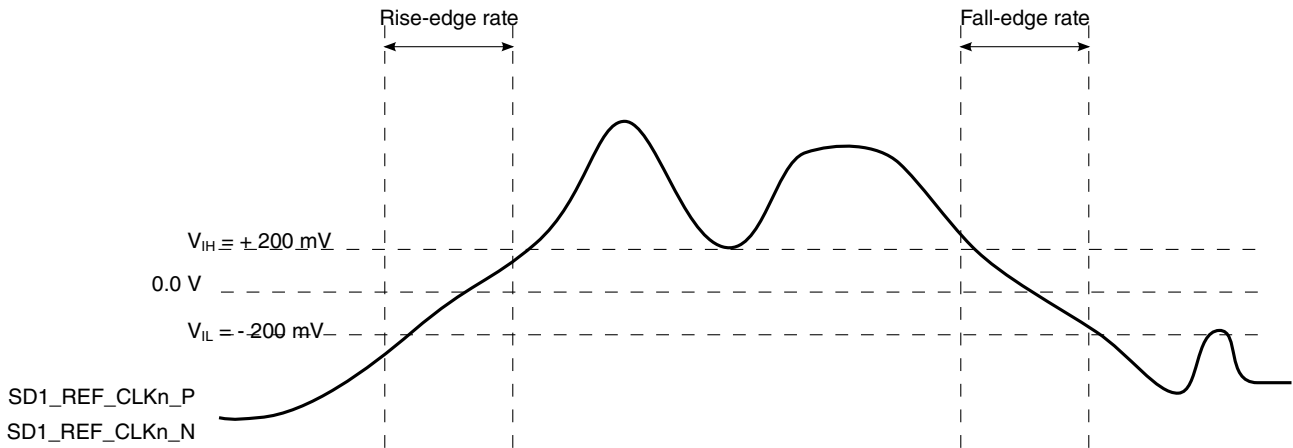

Figure 79. Differential measurement points for rise and fall time
The differential waveform is constructed by subtracting the inverting signal (SD_TXn_N, for example) from the non-inverting signal (SD_TXn_P, for example) within a differential pair. There is only one signal trace curve in a differential waveform. The voltage represented in the differential waveform is not referenced to ground. See Figure 79 as an example for differential waveform.
- Measured from -200 mV to +200 mV on the differential waveform (derived from SD1_REF_CLK_n_P minus SD1_REF_CLK_n_N). The signal must be monotonic through the measurement region for rise and fall time. The 400 mV measurement window is centered on the differential zero crossing. See Figure 79.